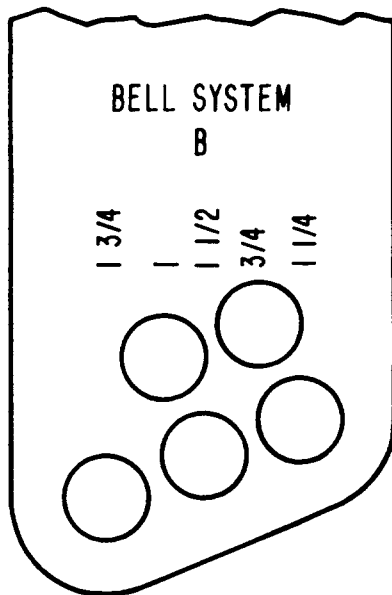

Fig. 5 — Angle Insert Adjustment for B Cable Guide
3.05 The B Cable Guide weighs 35 pounds and is used for placing cable up to 1-3/4 inches in diameter. The angle insert may be adjusted to accommodate various cable diameters by selecting the proper adjusting hole shown in Fig. 5.